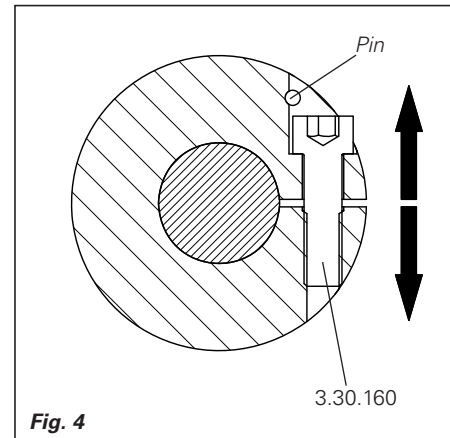

Fig. 4
**Important:** The motor shaft (3.40.090) must be introduced centrally into the adapter shaft (3.30.030). Do not introduce canted! If the motor shaft is not insertable untwist cheese-head screw (3.30.160) approx. a fourth turn against the pin to widen the hub (Fig. 4).